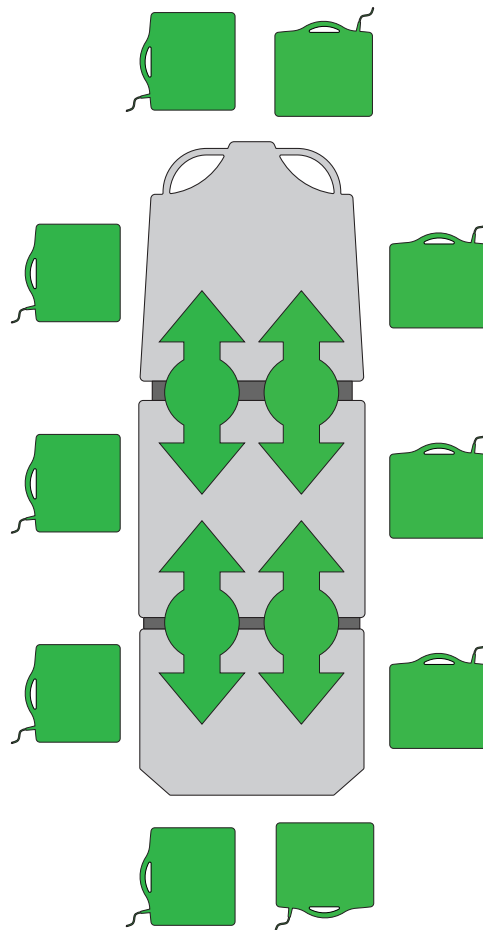

Figure 38: Cassette Locations
You can insert and remove cassettes from the head end, foot end, and both sides of the stretcher as shown in Figure 38.
To use as a defibrillator tray, pull out the top knob (A) and pivot the tray (B) over the foot extension (C) until the tray extends flat over the foot end of the stretcher as shown in Figure 38. Use the strap to secure the equipment to the tray.